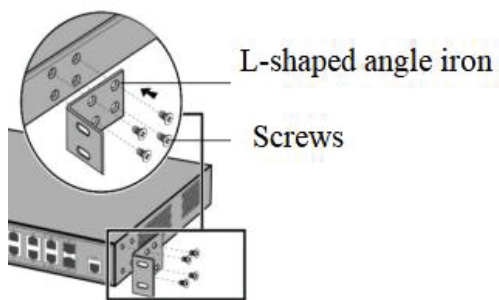

Figure 4
Step 1: As shown in Figure 4, first fix the mounting ears on both sides of the switch with screws.